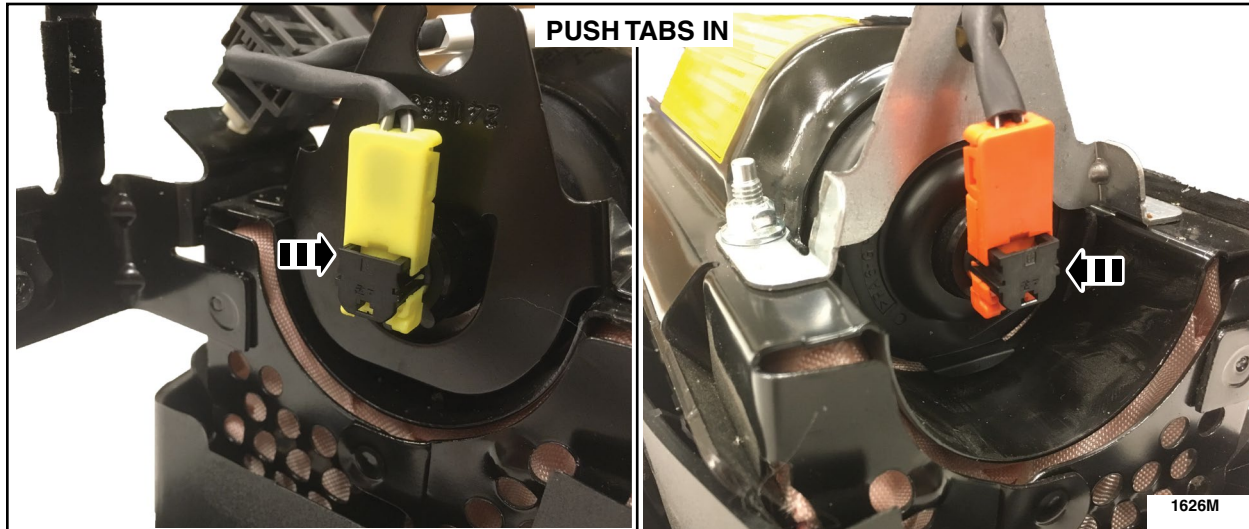

FIGURE 12
14. Insert the black inflator wiring harness connector tabs. See Figure 12.